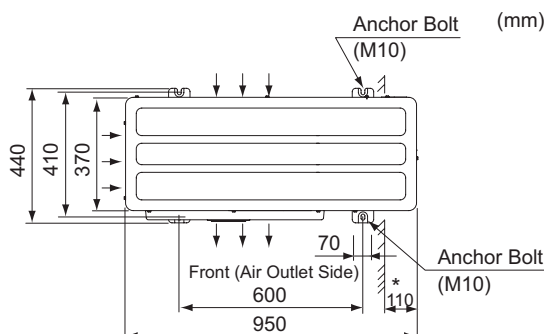

Fig. 5.6 Position of Anchor Bolts
- (2) When installing the outdoor unit, fix the unit by anchor bolts. Refer to Fig. 5.6 regarding the location of fixing holes.